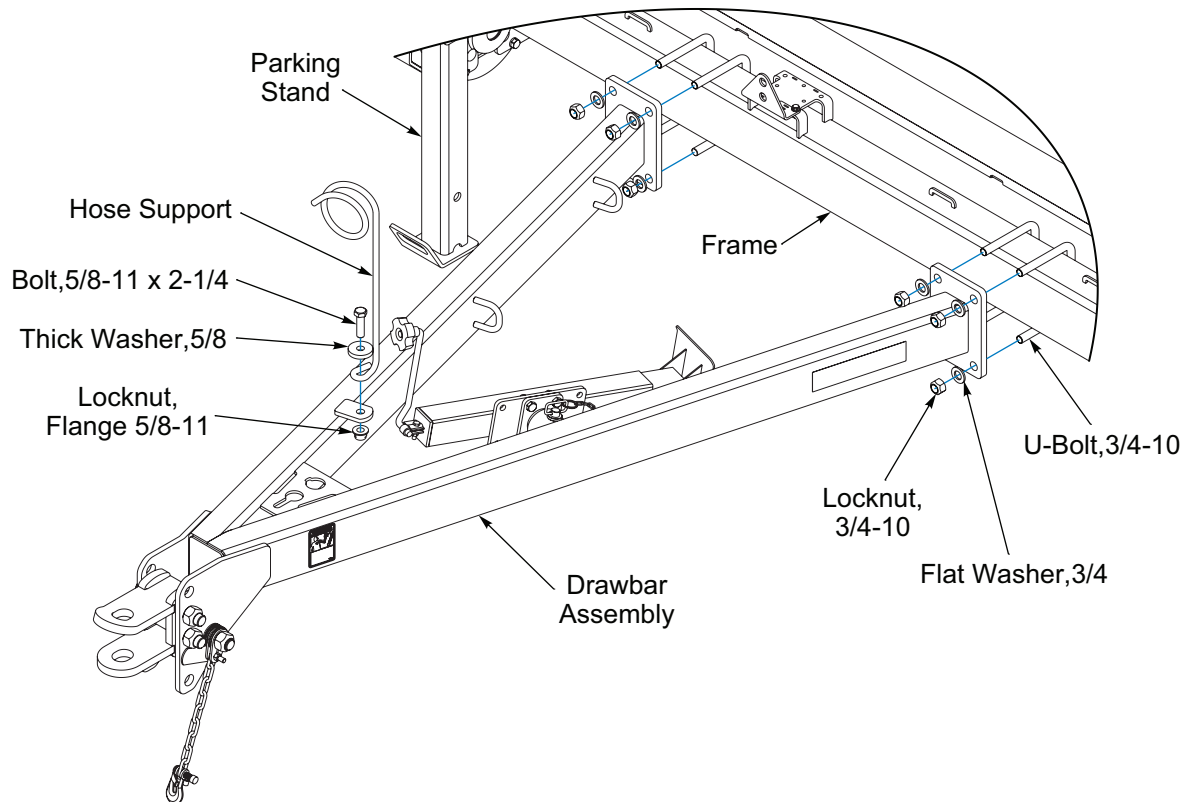

Figure 2-2: Drawbar Installation
2. Center Drawbar on the front Frame Tube. Attach Drawbar to Frame Tube with 3/4-10 U-Bolts, Flat Washers and Locknuts. **See Figure 2-2.**